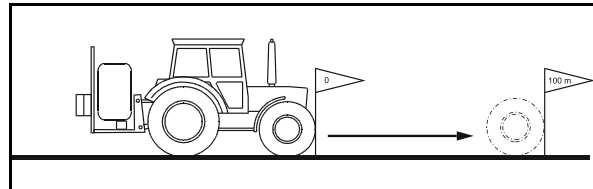

Fig. 31
2. Mark the start and end point (Fig. 31).